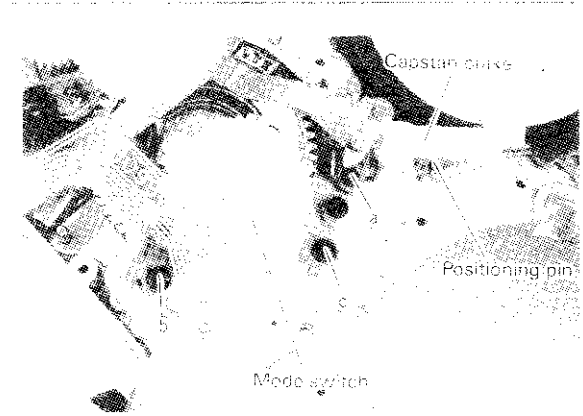

Fig. 3-22-8
- (1) Attach the capstan brake to the main plate so that the positioning pin matches the positioning hole on the main plate, and fix with the fixing screw (a) (Fig. 3-22-8).
- (3) Attach the mode switch onto the main plate so that the gear is geared with the gear (centre side) of the main cam gear while paying attention so as not turn the mode switch gear, and fix with two fixing screws (b, c) (Fig. 3-22-8).